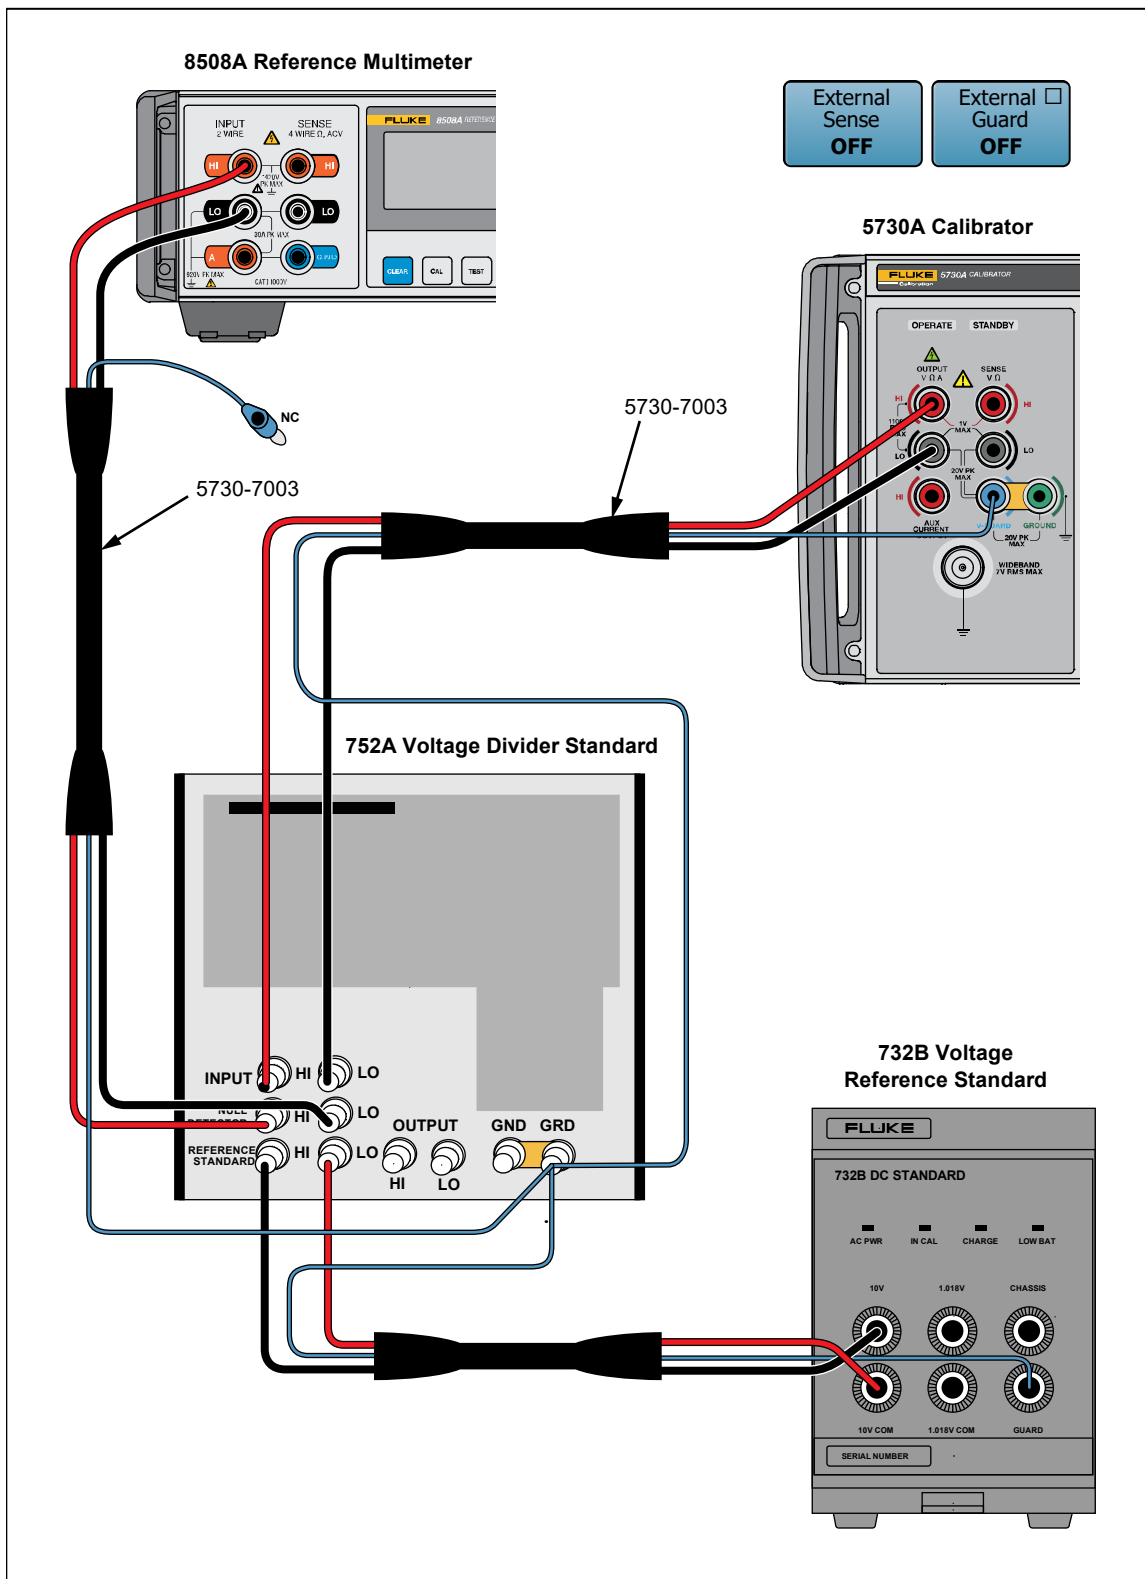

Figure 14. DC Voltage Calibration Connection
6. Remove the two shorts from the reference divider and connect the 732B 10 V Reference Standard and the Product as shown in Figure 14.